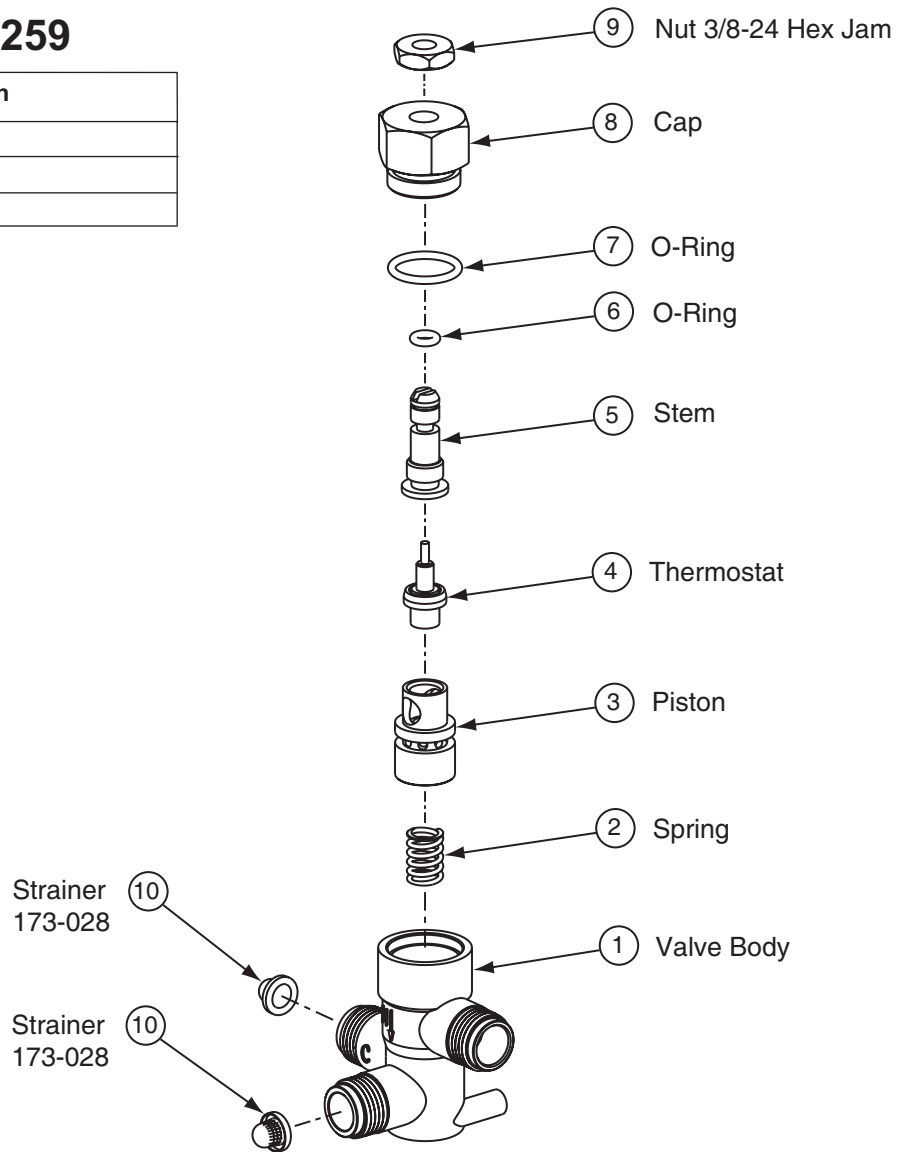

Figure 13
1. Remove and clean strainer (see Figure 13 or 14 on page 21). If strainer needs to be replaced, order Bradley part no. 173-028.
1. Remove the valve's cap and thermostat (see Figure 13 on page 21).